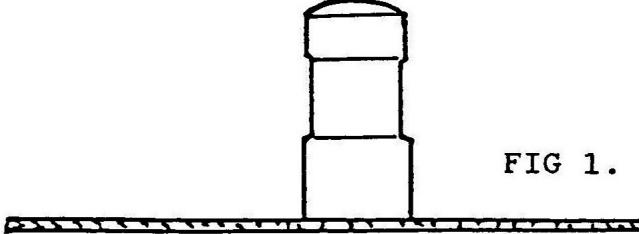

FIG 1.
- 1: Glue or screw the knob to a balsa baseboard. (fig 1)